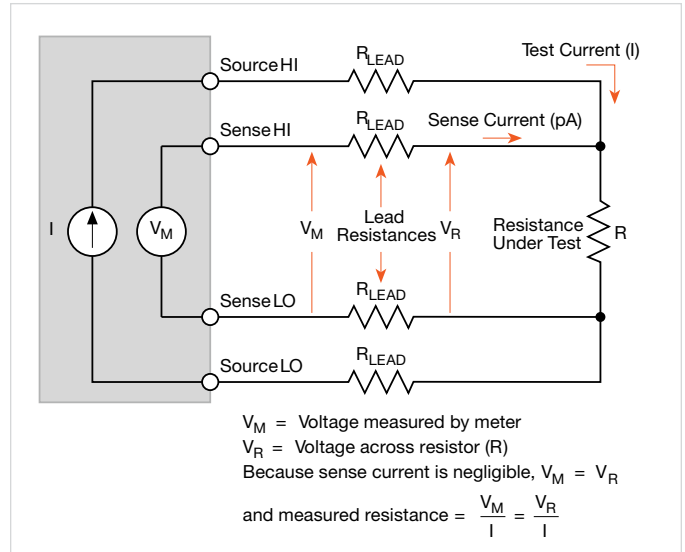

Figure 4. Four-wire resistance measurement with a SMU instrument
Due to the limitations of the two-wire method, the four-wire (Kelvin) connection method shown in **Figure 4** is generally preferred for low resistance measurements. With this configuration, the test current (I) is forced through the test resistance (R) through one set of test leads, while the voltage (V_M) across the DUT is measured through a second set of leads called sense leads. Although some small current may flow through the sense leads, it is usually negligible and can generally be ignored for all practical purposes. The voltage drop across the sense leads is negligible, so the voltage measured by the meter (V_M) is essentially the same as the voltage (V_R) across the resistance (R). Consequently, the resistance value can be determined much more accurately than with the two-wire method. Note that the voltage-sensing leads should be connected as close to the resistance under test as possible to avoid including the resistance of the test leads in the measurement.